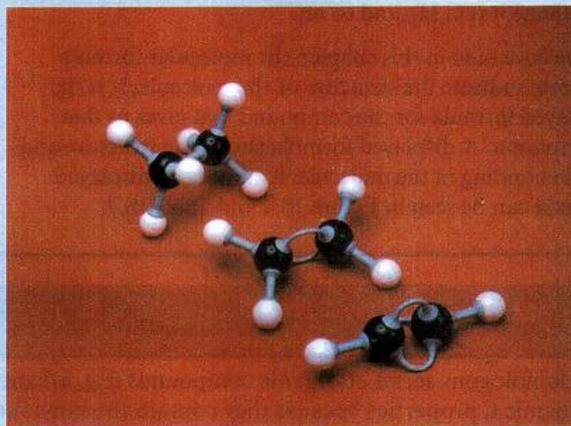

Figure 18.16: Molecular models showing the carbon-carbon single, double and triple bonds of ethane, ethene and ethyne.
- the structures of members of different series having the same number of carbon atoms (Figure 18.16 shows hydrocarbon molecules from different series containing two carbon atoms)